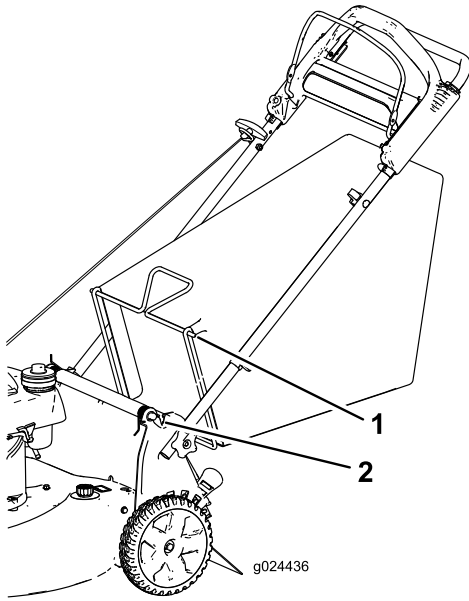

Figure 16
2. Install the grass bag, ensuring that the pins on the bag rest in the notches on the handle (Figure 16).